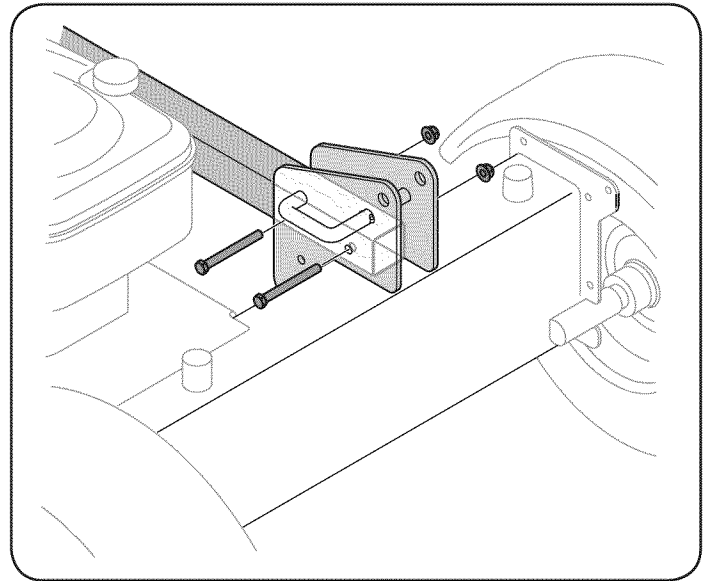

Figure 2
1. With the log splitter still standing upright, remove the two hex bolts and hex nuts from the tank bracket. See Figure 2.
2. Align the holes in the tongue with the holes in the tank bracket and secure with the hardware just removed. See Figure 2.